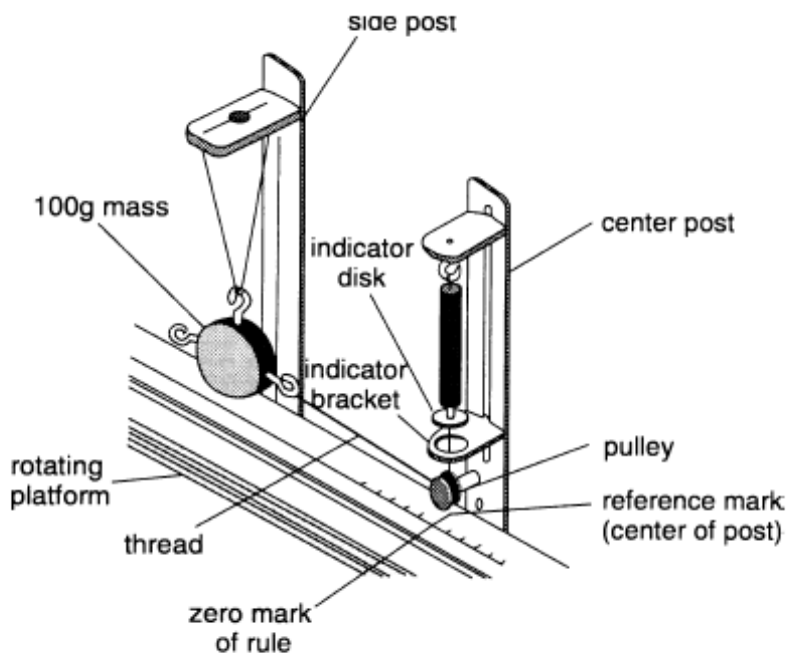
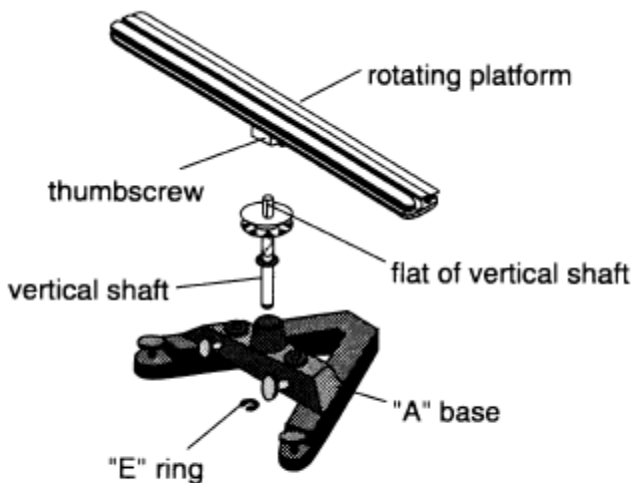
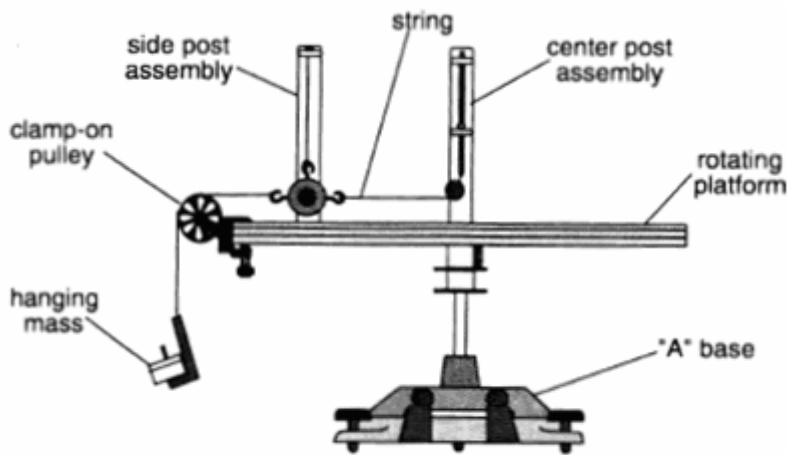

Figure 7.2. Radial Acceleration Accessory
Figure 7.3. Rotating Platform Assembly
Figure 7.7. Measuring F_c
You will use a rotational system consisting of the *Centripetal Acceleration Accessory* (shown in Figure 7.2) and the *Rotating Platform Assembly* (shown in Figure 7.3). Before you begin the experiment, assemble the system as follows:
- 1) Hang the bare 3-hook disk (without additional disks attached) from its center hook from the thread loop on the Side Post as in Figure 7.2. This will be the revolving mass m_r .
- 2) Run the thread from the Center Post down through the large hole in the indicator bracket, around the pulley, and over to the right hook on the revolving mass m_r as in Figure 7.2. This will provide the radial force F_c necessary to keep m_r in a circular path of radius r as it revolves.
- 2) Attach the clamp-on pulley to the end of the platform beyond the Side Post as in Figure 7.7. Cut a third piece of thread about 30 cm long and tie loops in both ends. Hook one end to the revolving mass, run it over the pulley, and hook the other end to the mass hanger. Place enough mass on the hanger to pull the revolving mass to its **vertical position**, and record the *total* hanging mass m_h (including the hanger) in Table 7.1 (when m_r is hanging vertically, the thread loop it is hanging from will be aligned with the index line on the inside of the Side Post).
- 3) Adjust the lower (indicator) bracket on the Center Post (Figure 7.2), so that the orange indicator is centered vertically in the large hole in the bracket. The weight w hanging from the pulley is now being balanced by the spring force as in Figure 7.7. Record this force in Table 7.1. When the revolving mass m_r is aligned with the index line, the spring will be exerting a radial force $F_c = w$ on it. This will be your *measured* value of F_c .